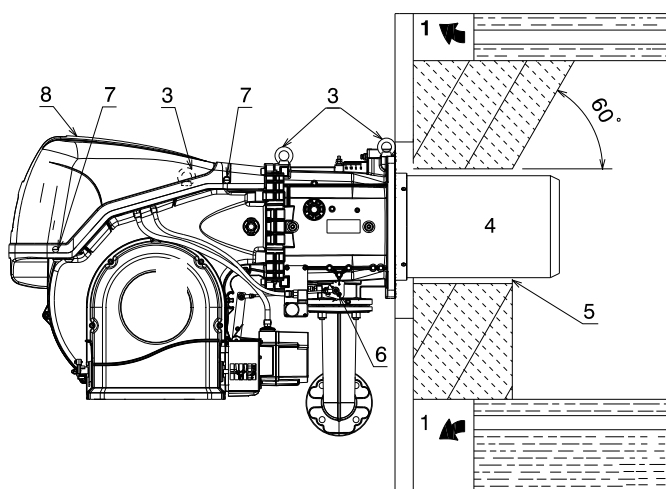

Fig. 14
For boilers with front flue passes 1)(Fig. 14) or flame inversion chamber, a protection in refractory material 5) must be inserted between the boiler fettling 2) and the flame funnel 4).
For boilers with a water-cooled front piece, a refractory lining 2)-5)(Fig. 14) is not necessary, unless expressly requested by the boiler manufacturer.
Prepare a suitable lifting system using rings 3)(Fig. 14).
- Fit the heat insulation supplied onto the blast tube 4)(Fig. 14).